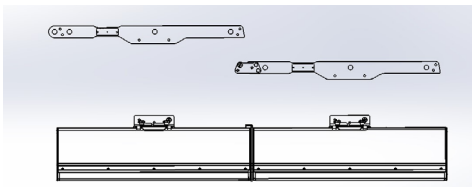

Figure 9 - Position Stingers on mounts
5. Attach Stinger (E) to Mounts
- Place stingers in place on the mounts (Figure 9)